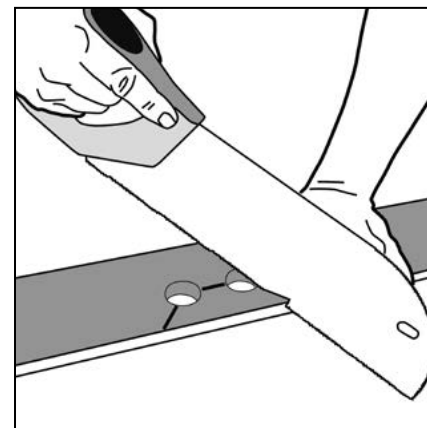

Figure 7 Radiator pipes
**7.1.11.9 Radiator Pipes & Architraves/Door Frames (figs 7, 8, 9)**
- ▶ Cut around as shown with a saw or with a sharp utility knife (fig 7). Install the floor plank.